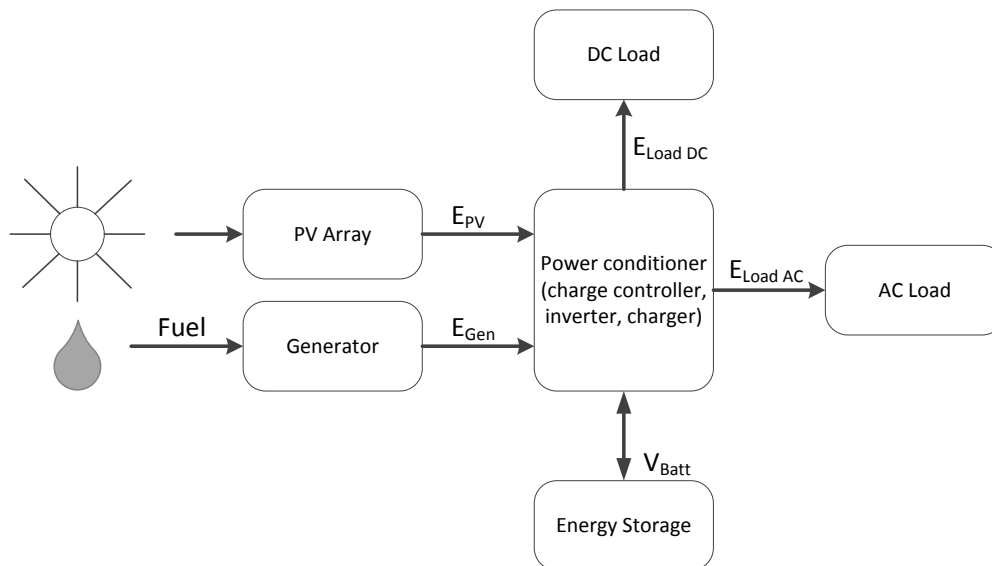
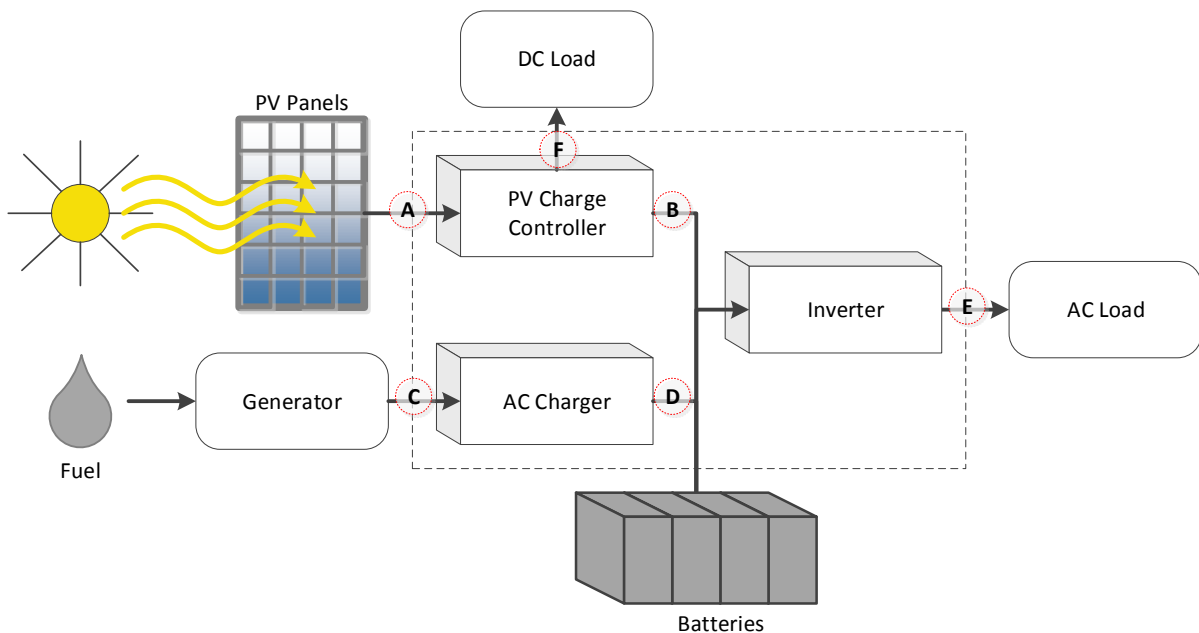

Figure 7: Schematic drawing of where measurements are taken.
Figure 8: System drawing with letters clarifying the possible positions of measurements described in this section.
For each one of the proposed measurements, a short introduction is given on what the measurement is used for. Then follows suggestions for which measurement equipment shall be used, and where in the system it should be placed. *Figure 7* shows a schematic drawing of where measurements should be taken. *Figure 8* further clarifies the discussed possible measurement positions by letters, which are referred to in the text.
Measurement point: The energy from PV is preferably measured between the PV array and the charge controller (point A in Figure 8). That allows for systems configurations with DC loads connected to the charge controller. It is also suitable for systems with charge controller, inverter and AC charger combined in one unit.
The guideline is best suited to systems with series controllers. If a charge controller of shunt type is used, the measurement must be taken after the charge controller (point B in Figure 8)*. Otherwise the obtained values will not be relevant in the proposed evaluation. Taking the measurement after the charge controller would, however, imply that the measured value includes the losses in the charge controller. If the system has a shunt controller and DC load connected directly to it, the guideline will not give reliable results.
Measurement point: The energy from diesel generator(s) shall preferably be measured between the generator and the charger (point C in Figure 8). If a bi-directional inverter is used, this is a must. If an AC charger is used, the measurement could be taken between the AC charger and the further system infrastructure (point D in Figure 8)*. Values measured after the AC charger would also contain losses in the charger though.
Measurement point: The energy to AC load is preferably measured right after the inverter (point E in Figure 8). In this way, all electrical appliances (AC) as well as all distribution infrastructures such as wires and junction boxes will be regarded as load.
Measurement point: The energy to DC load is preferably measured right after the charge controller (point *F* in *Figure 8*). That way, all electrical appliances (DC) as well as all distribution infrastructures such as wires and junction boxes will be regarded as load.